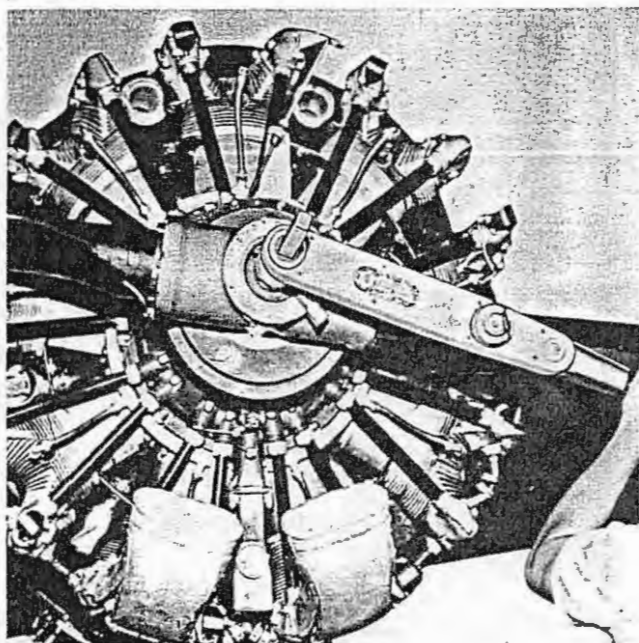

Figure 5-55. Tightening Propeller Shaft Nut
20. Using propeller shaft nut wrench (No. 6500246) and a four-foot bar in the shaft nut wrench, apply approximately 750 foot-pounds torque (figure 5-55).